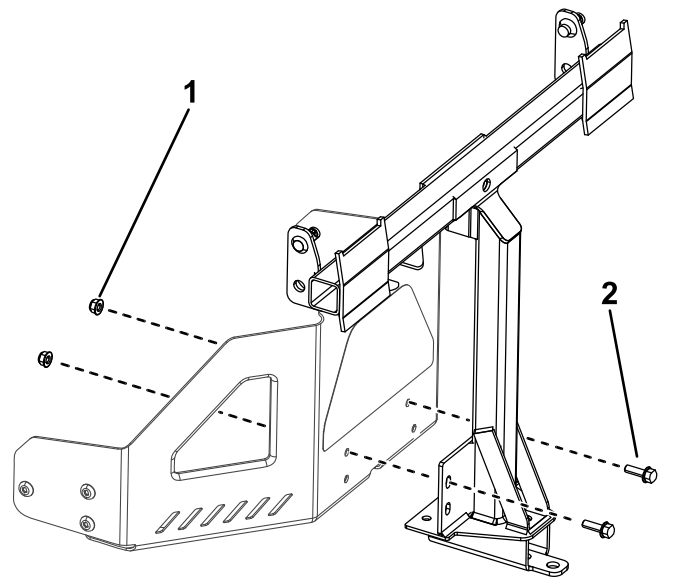

Figure 8
2. Install the pivot frame to the machine frame as shown in Figure 8. Secure the pivot frame to the machine frame using 2 bolts (5/16 x 1 inch) and 2 locknuts (5/16 inch).